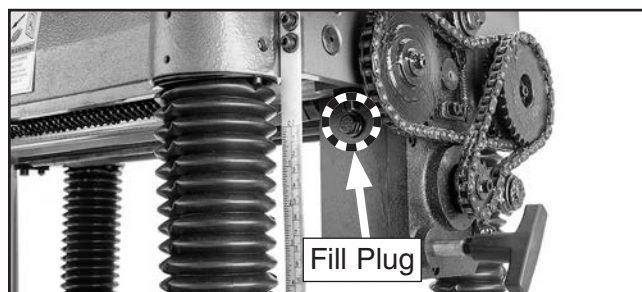

Figure 23. Drive chain cover removed to access gearbox fill plug.
Note: Although it is not necessary to remove the drive chain cover to access the fill plug (see **Figure 23**), it is more convenient to do so. To remove the cover, remove the seven cap screws that secure it to the planer.
1. Use a 14mm wrench or socket to remove gearbox fill plug (see **Figure 23**).